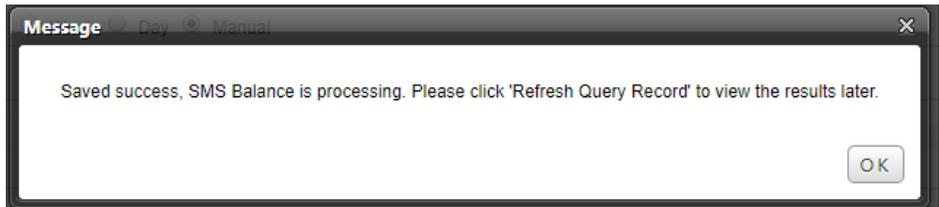

Figure 3-69 Saved successfully
- 1) According to the actual carrier, fill in the **Services number** and **Services code**, select the **Query Scheduled Cycle**, click **Save and Query**; the following dialog box appears, as shown in Figure 3-69.